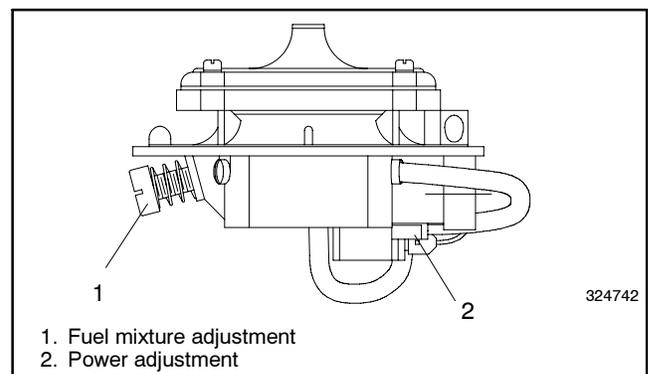

Figure 9 30-80 kW with Nolf NCA-225M and NCA-125M Style Fuel Mixers
- 5.2 **30-80 kW generator sets.** Nolf NCA-225M and NCA-125M style fuel mixers used on early versions of 30-60 kW 4.3 L and 5.7 L GM engines, 30-60 kW LP liquid withdrawal systems, and 80 kW 8.1 L GM engines. See Figure 9.
- 5.2.5 Adjust the fuel mixture adjustment (Figure 9) to obtain a full-load oxygen sensor voltage reading in the range specified in Figure 2.